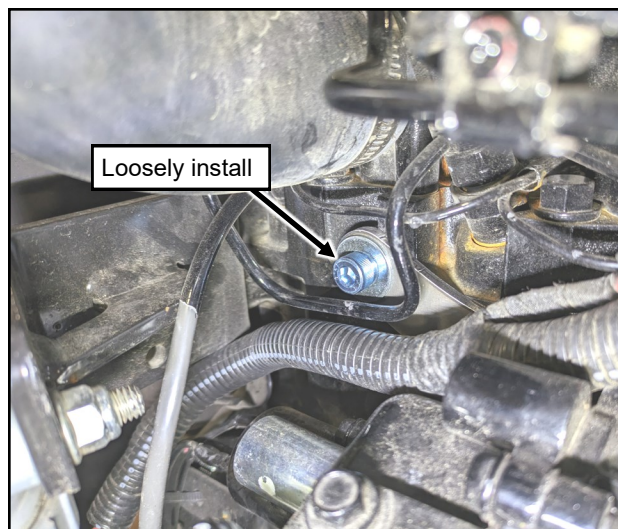

Fig. 1.38 (Loosely install M8x1.25 x 18 socket head screw)
- 1.38 With a fender washer and supplied red Loctite, loosely thread in an M8x1.25 x 18 socket head screw into the hole shown in Figure 1.38.